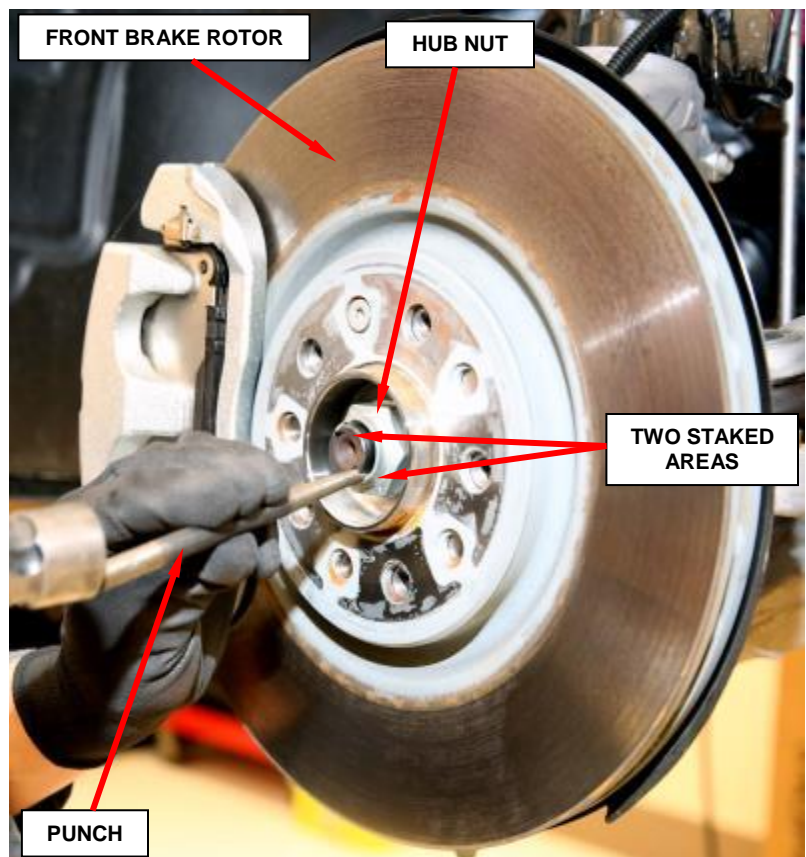

Figure 1 – Hub Nut
3. Using a suitable punch, lift the two staked areas in the hub nut to avoid damaging the halfshaft (Figure 1).
4. While a helper applies the brakes to keep the hub from rotating, remove and **discard** the hub nut from the halfshaft. **The original hub nut is not reusable (Figure 1).**